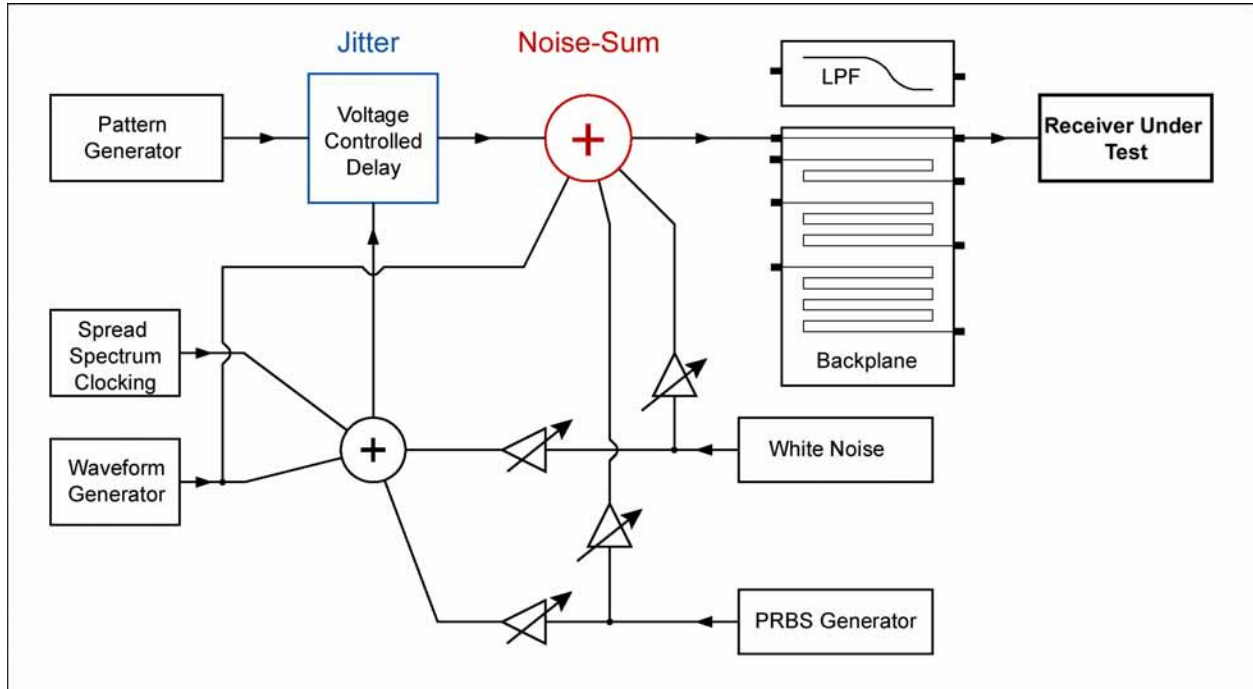
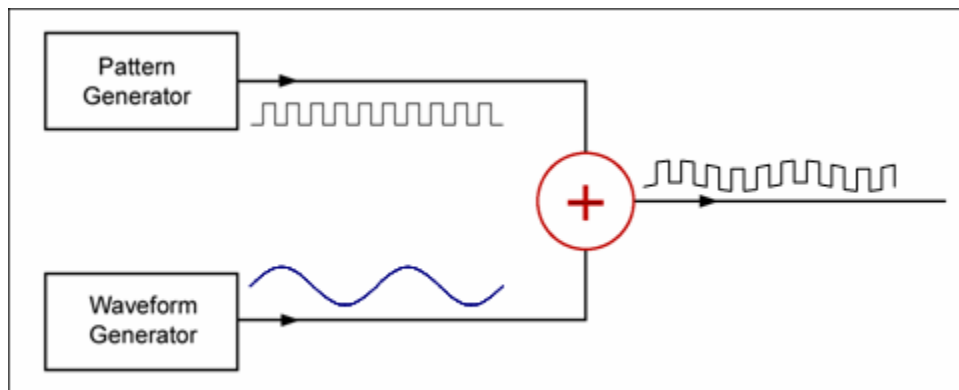
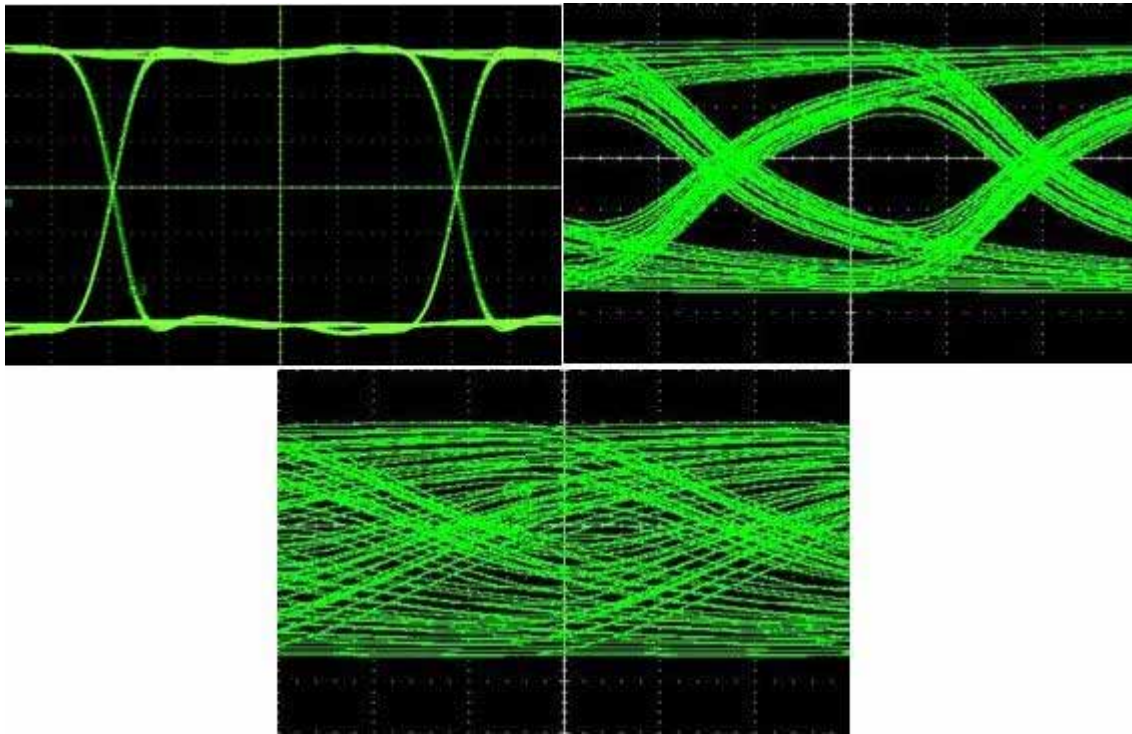
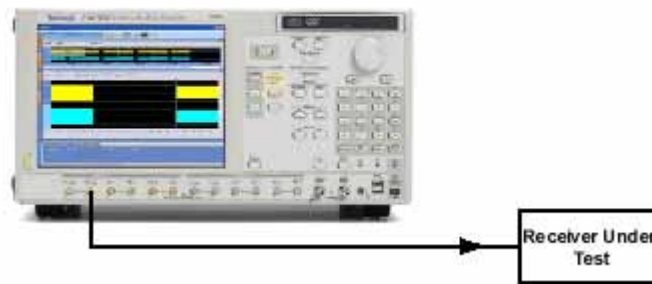

Figure 1: Big diagram of signal degradation – ultimate how to stress an eye reference.
Figure 3: Waveform with and without Periodic Noise (PN).
Figure 4: Screen shots of waveforms and eye diagrams with different amounts of ISI, (a) no ISI, perfect signal, (b) medium ISI, (c) high ISI.
Figure 6: Implementation of Figure 1 with a high-bandwidth, high-resolution, deep-memory, programmable arbitrary waveform generator.
A catalog of signal degradation would make a fine reference book. We'll use a big diagram to sort it all out. One glance at Figure 1 and you'll immediately know what I mean by eye stress. I got a headache just
drawing it. Seriously though, with the setup in Figure 1 we can produce the necessary stresses for testing and debugging receivers.
To the right of the voltage-controlled delay in Figure 1, the summing element that I labeled “noise-sum” is used to apply amplitude noise to the signal. The sine wave that caused the PJ when applied to the voltage controlled delay, would cause Periodic Noise (PN) when summed with the generated signal, Figure 3.
There are two random noise sources in Figure 1. The white noise generator applied to the voltage controlled delay puts Gaussian Random Jitter (RJ) and/or Random Noise (RN) on the generated signal. Remember, RJ follows an unbounded Gaussian distribution that is specified by its width or rms value, σ . That it is *unbounded* means that a peak-to-peak measurement of RJ is ill-defined. When the white noise generator is applied to the noise-sum, the signal exhibits random voltage noise; due to the non-zero rise/fall times, the random voltage noise causes both Random Noise (RN) and Random Jitter (RJ).
The second random noise source in Figure 1 is more obscure. A Pseudo-Random Binary Sequence (PRBS) generator is used to apply random, but bounded noise. The timing of the PRBS signal shouldn't be correlated with the pattern generator and the rate of the PRBS signal needn't be near the rate of the signal. The PRBS waveform applied to the noise-sum puts stress on the signal similar to what we might expect from crosstalk in a real system. PRBS applied to the voltage-controlled delay can be configured in many different ways. If the PRBS generator is controlled by a clock that is neither frequency nor phase-locked to the pattern generator, then the consequent jitter doesn't correspond to any obvious physical stress in a real system, though it could be used to test a receiver in a nightmare situation with untraceable unexplainable Bounded Uncorrelated Jitter (BUJ). If the PRBS generator is phase-locked to the pattern generator, then its jitter would emulate a system that had a defective multiplexer/demultiplexer near the Receiver Under Test (RUT).
Perhaps the most interesting (and confounding) stress is caused by the backplane just to the left of the RUT in Figure 1. The backplane has several different trace-lengths that can be used to apply different levels of Inter-Symbol Interference (ISI). ISI is caused by the frequency and attenuation response of the transmission medium, e.g., cables, circuit board traces, et cetera. We can think of the channel as a chain of RC circuits. The farther the signal propagates, the greater is the signal distortion. Figure 4 shows the ISI resulting from increasing distances of propagation through FR-4 backplane.
In addition to the imperfections described above, the receiver must also operate under the stress of the technology *features*. The Spread Spectrum Clock (SSC) generator in Figure 1 *spreads the spectrum* of the signal. That is, by applying low frequency (typically 33.3 kHz) low amplitude (0.5% of the data rate) periodic jitter to the signal, the transmitted power is smeared about its peak. While the net transmitted power is unchanged, the power transmitted at the nominal frequency is reduced, making it easier to pass government regulations.
To summarize, the system shown in Figure 1 is capable of applying any stress that you would need to test the tolerance of a receiver, but it begs several questions.
1. Do I really have to buy all the equipment in Figure 1?
The solution to Figure 1 is that the whole mess can be emulated by a high-end arbitrary waveform generator. All the signals in Figure 1 can be reproduced in well controlled amounts and combinations by synthesizing the effects in a high-bandwidth, high-resolution, deep-memory, programmable arbitrary waveform generator. Tektronix AWG7000 series with direct synthesis software converts Figure 1 into Figure 6.
The idea of testing a receiver by subjecting it to the worst signal allowed by a particular technology is a good one. Except for one thing: different receivers respond to different stresses differently so there is no single worst-case-fits-all signal. Further, it isn't practical to perform an exhaustive test. Figure 1 includes at least five separate noise and jitter stresses. If we decided to test the receiver with all permutations of four different settings for each stress we'd end up making $4^5 = 1024$ measurements.
One of the difficulties in configuring a stressed eye measurement is obtaining a truly Gaussian white noise generator for the RJ source. If you perform the full 15 minute measurement at each frequency setting, then the RJ source should faithfully follow a Gaussian all the way out to 7σ . Most engineers use the faster technique which requires the RJ source to follow a Gaussian out to less than 4σ which reduces the price of the stress transmitter shown in both Figure 1 and Figure 6.
Stressed eye receiver testing is the natural evolution from SONET/SDH receiver tolerance tests. The new stress tests accommodate nearly every type of stress. Problems with receivers can be diagnosed by applying different stresses to isolate those signal degradations that most challenge a receiver. The brute-force method of applying stresses to signals was shown in Figure 1; it is a good graphic to help you keep track of what all the stresses are and where they come from in real systems, but it would be unpleasant to configure such a jitter-noise transmitter and borderline impossible to calibrate it. Fortunately there are high-rate programmable arbitrary waveform generators that can apply calibrated levels of the different stresses. In fact, these "fancy arb's" can capture signals from a system like Figure 1 for later retransmission.